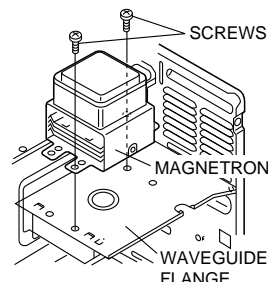

Figure C-1. Magnetron replacement
1. Re-install the magnetron to waveguide flange with the two (2) screws diagonally as shown in Figure C-1.
2. Re-install the magnetron air guide to magnetron with the one (1) screw.
3. Insert the two (2) tabs of the chassis support to the oven